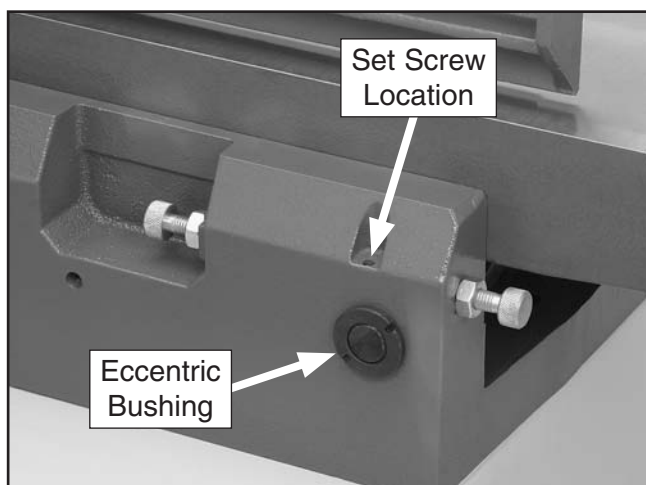

Figure 66. Eccentric bushing and set screw location.
2. Remove the set screw from each of the four eccentric bushings under the outfeed table, and loosen the set screws underneath those removed set screws (see **Figure 66**).